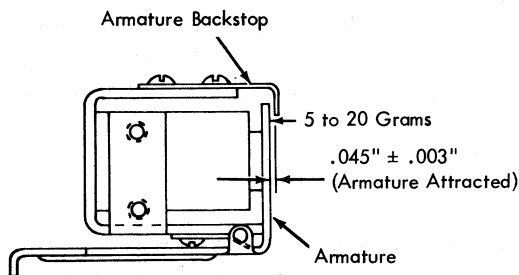

Figure 4-31. Selector Magnet
1. With armature attracted, set a clearance of  $.045'' \pm .003''$  between back stop. Adjust by moving armature stop (Figure 4-31).
3. Check that chute blade exerts 5 to 20 grams pressure on selector magnet armature (check at point indicated, Figure 4-31). Form chute blade anchor as required to obtain correct pressure.